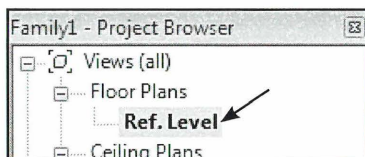

Fig. 04.67. Stå i Ref. Level.
- Stå i Ref. Level i Project Browseren (Fig. 04.67).